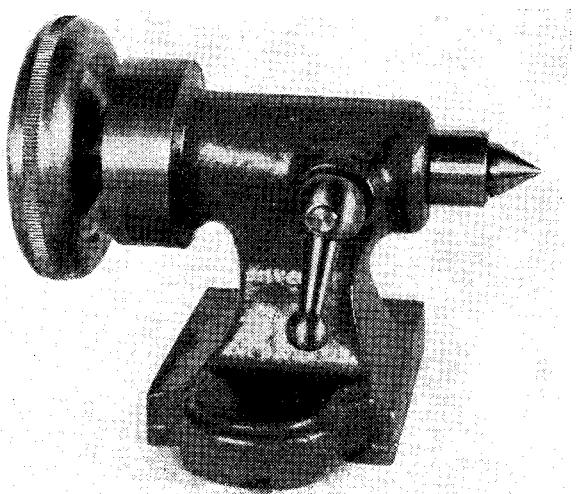

Fig. 10. Tailstock having an internal working thread
2. *Attachments for Tailstocks Having an Internal Working Thread.* The conversion of the type of tailstock illustrated in Fig. 10 and, in section, in Fig. 10B, is a somewhat more difficult matter ; moreover, it is not possible to arrange matters so that the tailstock barrel can be moved either by the handwheel or by means of